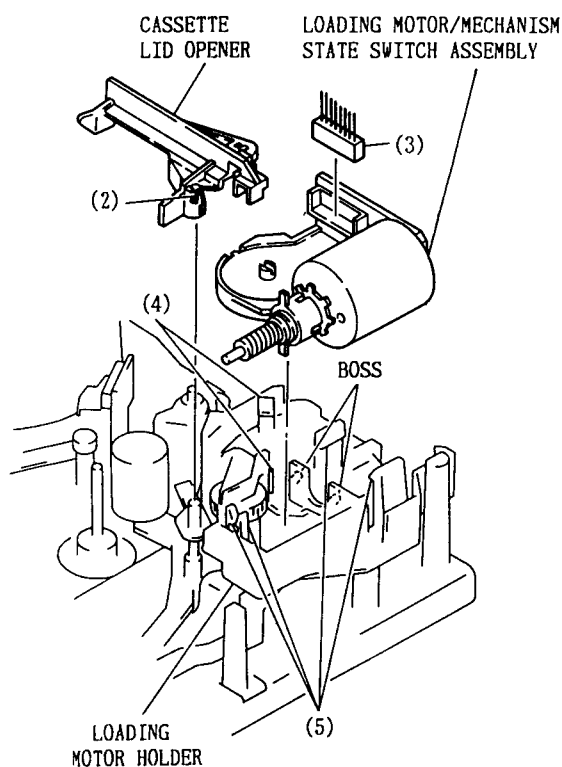

Fig. 7-4 Loading Motor/Mechanism State Switch Assembly
4. Loading Motor/Mechanism State Switch Assembly (Fig. 7-4)